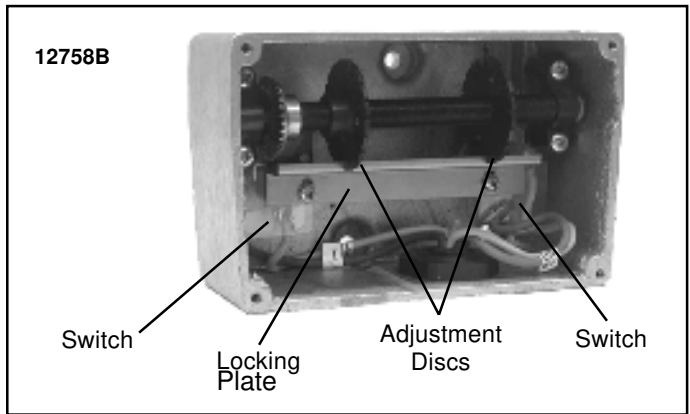

Figure 7-2. Screw-Type Limit Switch Adjustment (Wires not Shown for Clarity.)
**7-4. SCREW-TYPE LIMIT SWITCH.** This limit switch has a rotary screw driven by a gear reduction which is coupled to the end of the drum shaft. Adjustment discs operate the contacts of separate switches; one for the hoisting circuit and one for the lowering circuit. The switch assembly must be wired in accordance with the appropriate wiring diagram, which is packaged with hoist. Adjustment of this screw-type limit switch is accomplished as follows: (Refer to Figure 7-2).